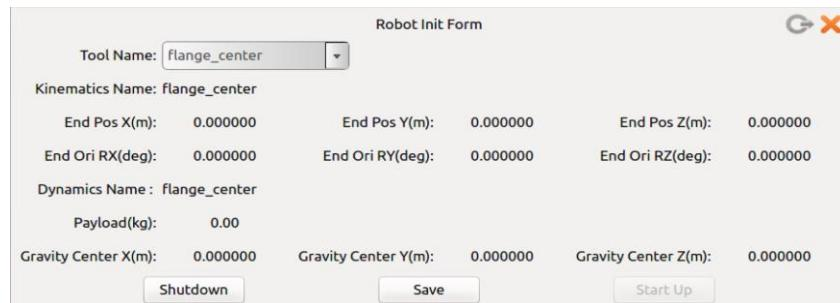

Figure 9-4 AUBOPE robot initialization pop-up
- When inputting correct username and password, and click “Login”, another window pops-up (see figure 9-4). Please click “save” button then click “Start Up” button.